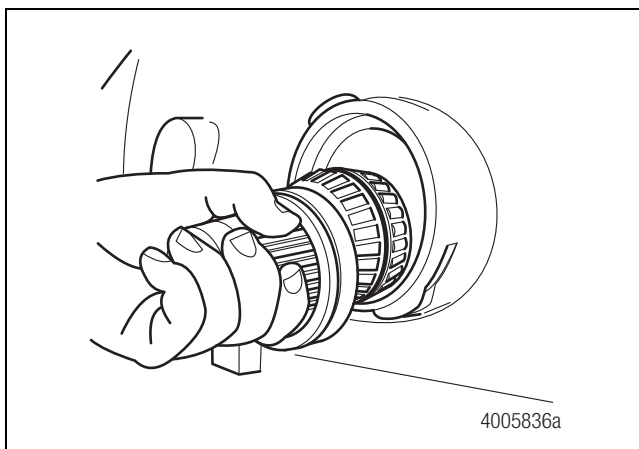

Figure 3.15
7. Pull out the output shaft from the housing. If necessary, turn around the yoke nut and thread it partially onto the output shaft, then use a pry bar to pull the shaft from the bearing cage. Figure 3.15.